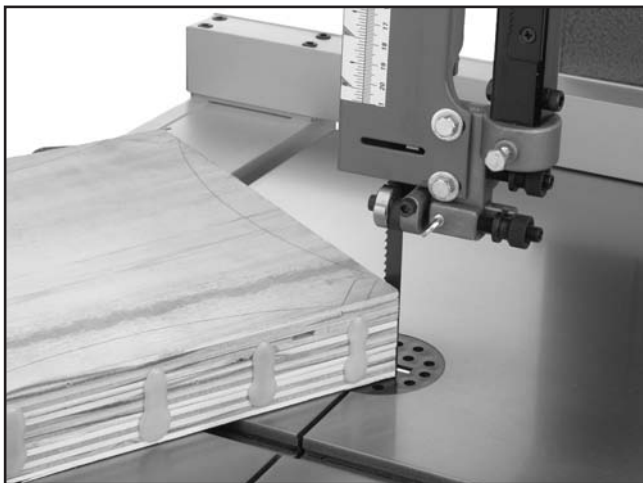

Figure 77. Typical stacked cut.
5. Cut the stack of pieces as though you were cutting a single piece. Follow your layout line with the blade kerf on the waste side of your line as shown in **Figure 77**.